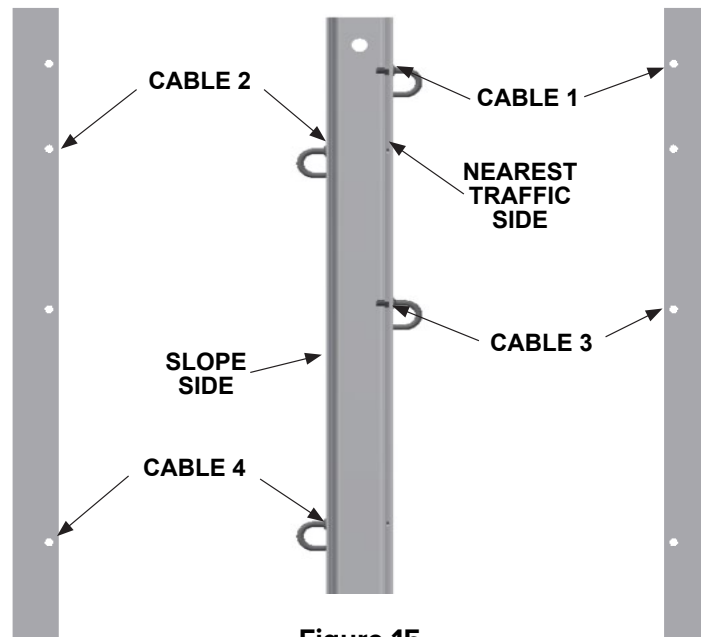

Figure 15
1. Locate the cables on CET™ S3 SYT® Line Post Five to Post Ten as shown in Figure 15.